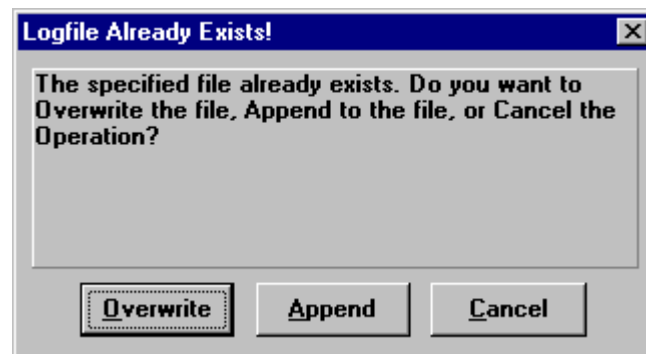

Figure 5-12. Logfile Already Exists! Message
4. If you choose a logfile that already exists, the *Logfile Already Exists* message (see **Figure 5-12**) appears, asking if you wish to overwrite the existing file or append the status messages to the end of the existing file. Choose **Overwrite** or **Append** to begin logging in the file or **Cancel** to close the dialog box without opening the logfile.